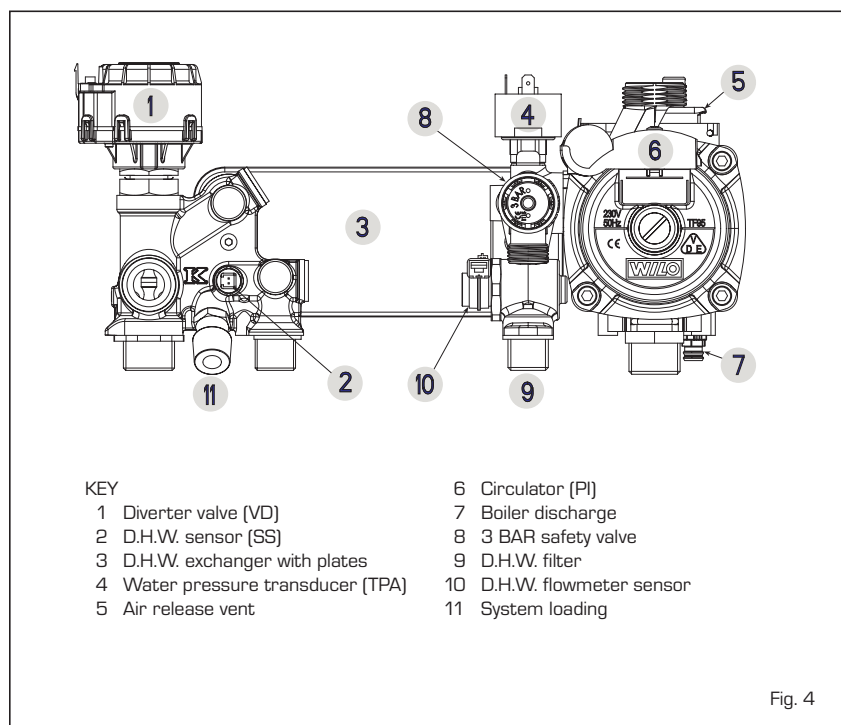

Fig. 4
2.4 SYSTEM FILLING (fig. 4)
2.4.1 System draining (fig. 4)